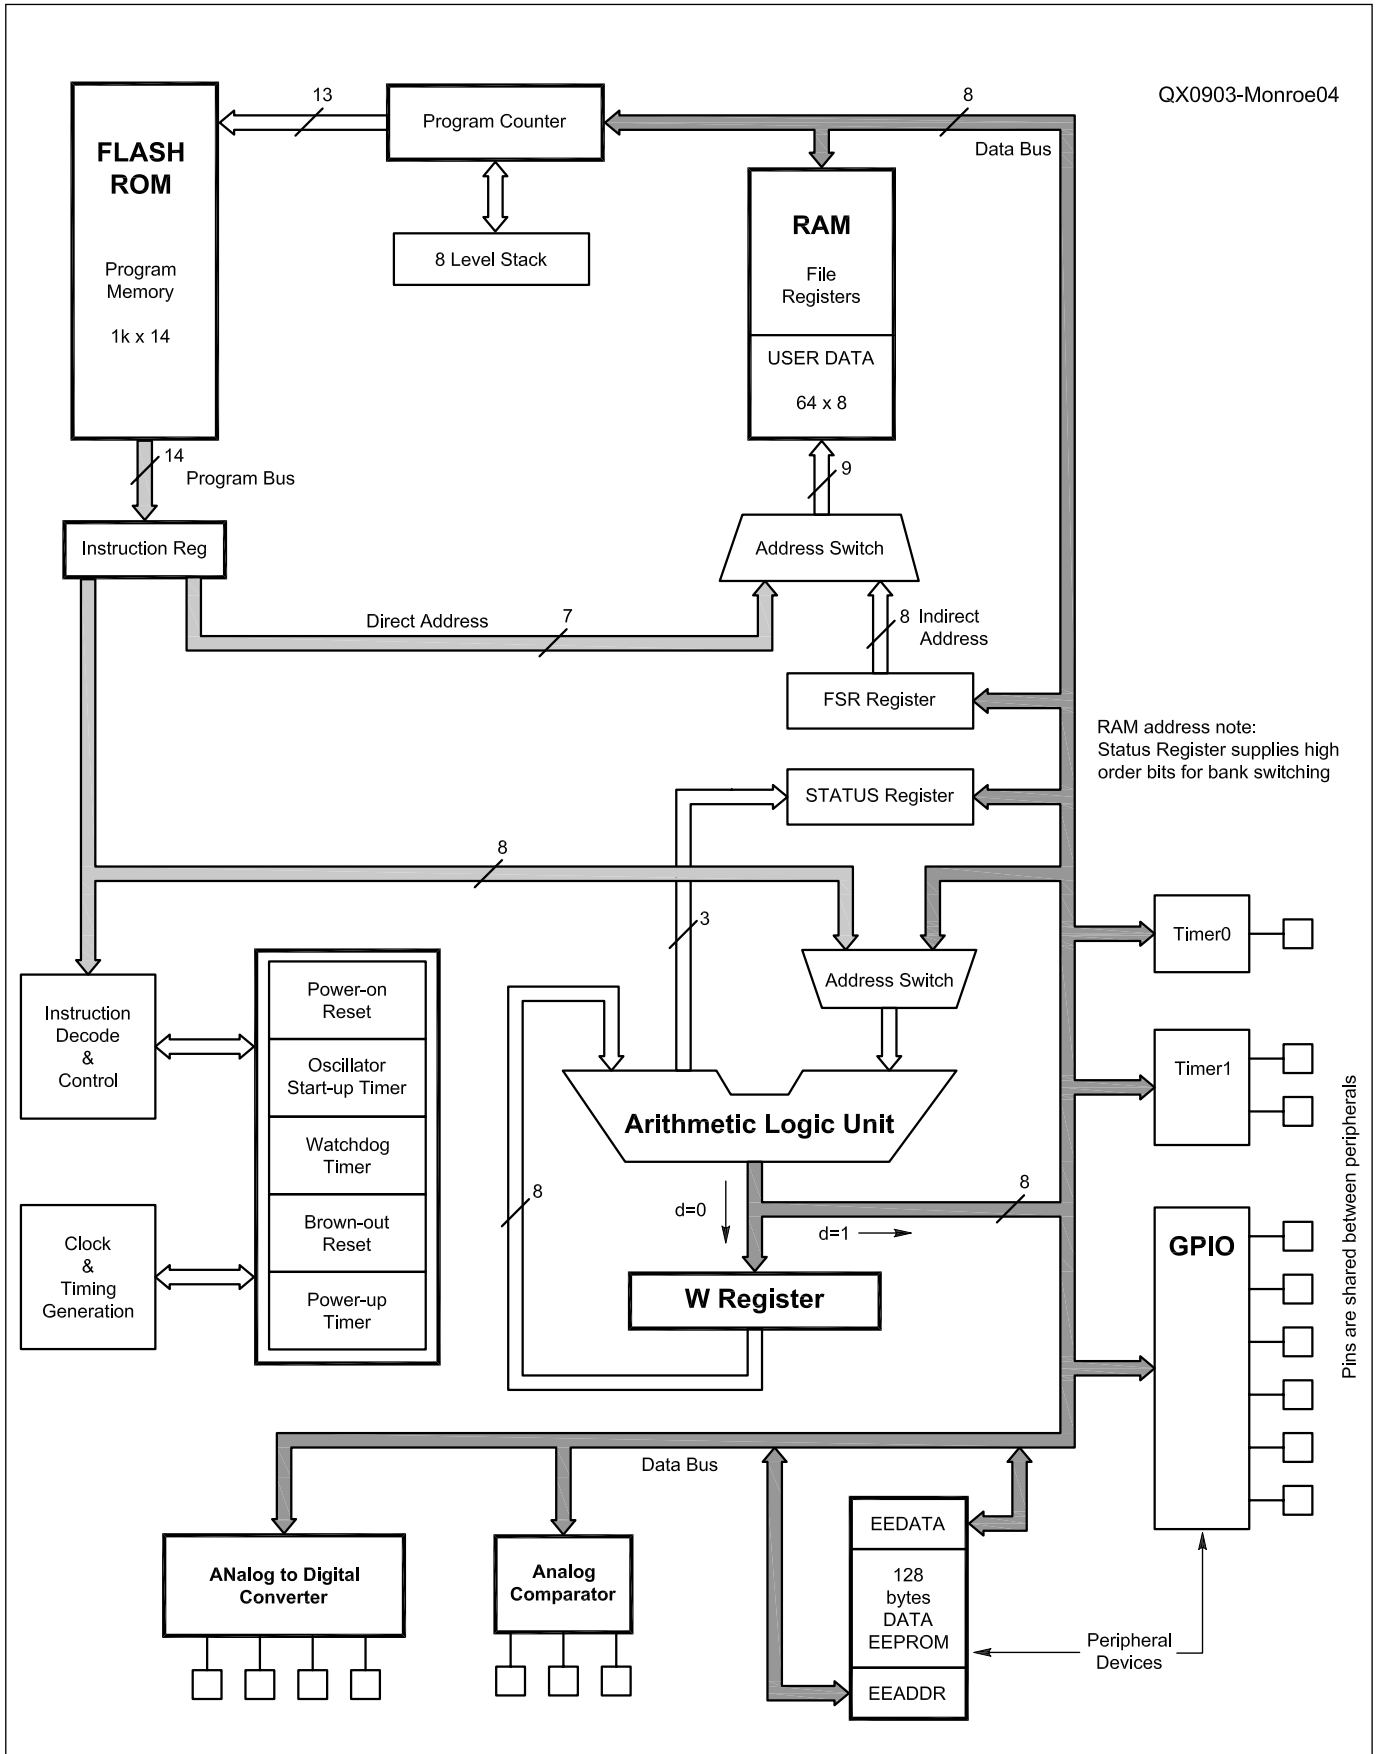
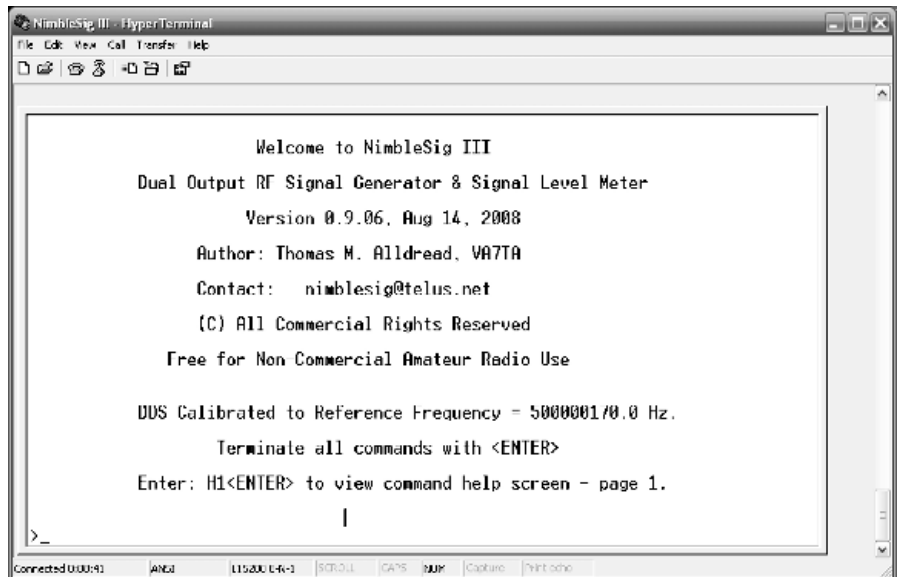
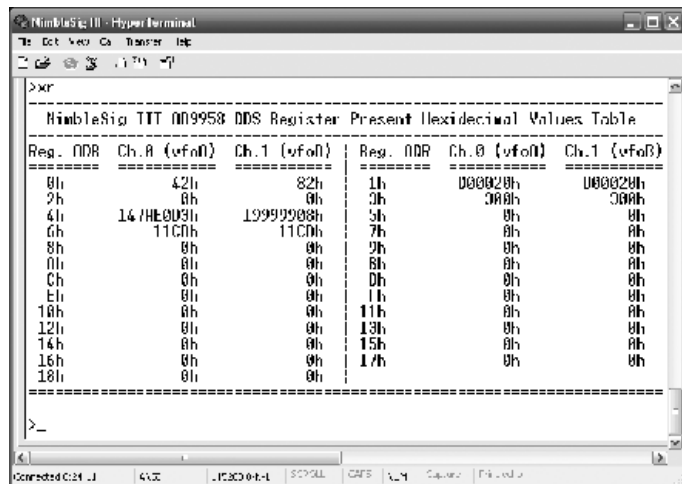

Figure 4 — This block diagram shows the basic operation of the PIC12F675 microprocessor.
Figure 2 — The NimbleSig III Sign On Screen indicates initialization has been completed.
Figure 3 — This DDS Register Dump shows the default initialization values.
Since the hardware and software work so closely together, it is necessary to relate the two as we go along. We have an idea what program instructions look like. Now is the time to peek inside our microcontroller. See the block diagram in Figure 4. The microcontroller has a lot of circuits that are tied together to process information. The PICmicro is called a reduced instruction set computer (RISC) processor. The processor in a personal computer, because it has a big set of instructions, does a lot with one instruction that a PIC cannot do. The PIC performs many simple instructions, so it is very dependent upon computer memory to place and retrieve program instructions and data. To facilitate this, program memory and data memory are separate. This is called “Harvard Architecture.” One advantage is that it allows for a longer program word while using a byte width (8 bits) data word. At the very center of what is happening inside the microcontroller is the arithmetical and decision making logic of the CPU, but because it’s totally dependent on data, we will look at those main sources first.
Perhaps you are eager to actually use some hardware, program a chip, and see it work. In order for us to witness a PIC doing something useful we need some contact with the world outside the PIC. Look at the block diagram in Figure 4; see how many I/O devices are in the device and how few pins are available for your use. The data sheet shows that the peripherals share pins. It is necessary to configure the peripherals you would like to use and disable the others through program instructions. I will use the 12F675 again as an example because it has a comparator, A/D converters, digital I/O and timers. See Figure 3. We will use the one input port on pin 2, GP5, and one output on pin 3, GP4. Note: The data sheet for the 12F675 shows that pin 4 is input only. When setting up peripherals pay close attention to the data sheet. By setting the RP0 bit in the Status register we can access Bank1 of the Special Function Register, and by clearing that same bit we can switch back to Bank 0. In Bank 0, GPIO is cleared. Writing 07h to CMCON turns off the comparator. Switching to Bank 1 gives us access to ANSEL, where we select digital I/O. Writing 28h or binary 00101000 to TRISIO selects GP5 as input along with MCLR. All other I/O pins are output. Clearing the RP0 bit in Status takes us back to Bank 0. The remainder of the program looks at a switch that controls the LED. Just think, at the very low cost of small microcontrollers, one could be used in a flashlight! If your imagination is leading you to add features then you are going to enjoy
- Provides confirmation of the successful completion of initialization by printing the sign-on message shown in Figure 2. Figure 3 is a screen shot of the DDS register dump, showing the default initialization values.